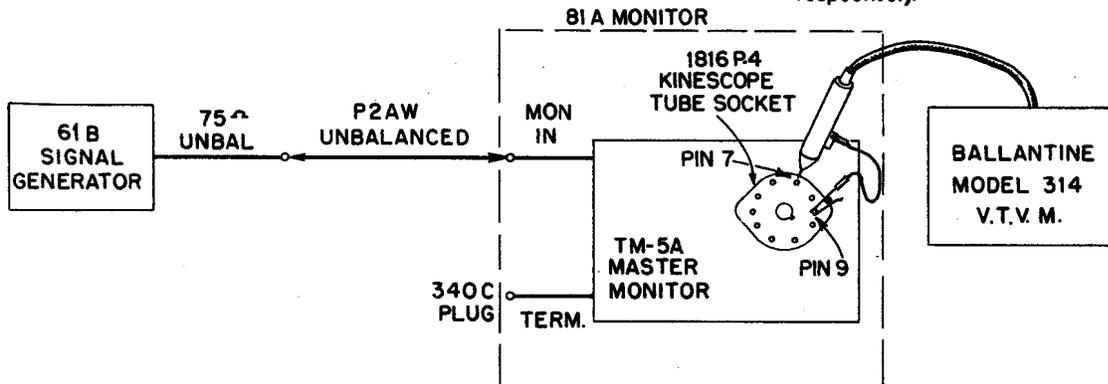

Fig. 3 - Equipment Arrangement for the Kinescope Frequency Response Test
- (1) Turn power OFF.
- (2) Remove the kinescope socket and connect the vacuum tube voltmeter between the control grid socket pin No. 7 and ground socket pin No. 9 for the 1816P4 or socket pin No. 2 and ground socket pin No. 12 for the 10FP4A.
- (3) Set the signal generator for 75-OHM UNBAL SINE WAVE OUTPUT, -6 db output level and 100-kilocycle frequency.
- (4) Terminate the monitor input with the 340C plug (75 ohms).
- (5) Connect the signal generator, TM-5A monitor, and vacuum tube voltmeter as shown in Fig. 3.
- (6) Turn the power ON and allow a warmup period of 15 minutes.
- (7) Adjust the CONTRAST CONTROL (R155) to cause a meter indication of exactly 7 volts.
- (8) Maintaining the same signal generator output level make measurements at the following frequencies.